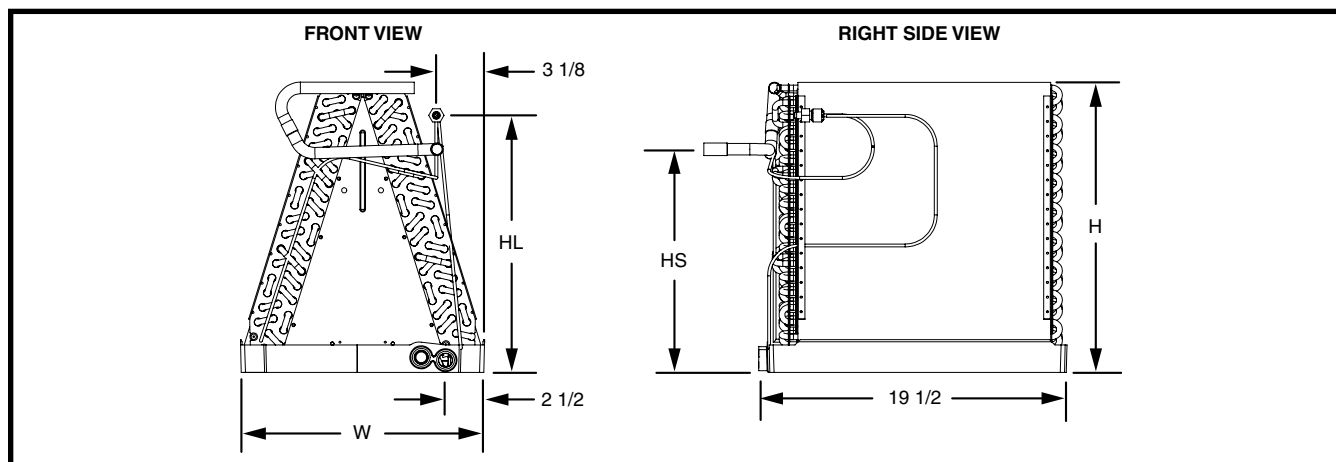

Figure 1. Coil Dimensions
2. Install the coil case on the furnace air discharge opening and level it as needed to ensure proper condensate drainage. If needed, make a plate to adapt the coil to the air discharge opening. See Figure 1 (page 3) for coil dimensions.